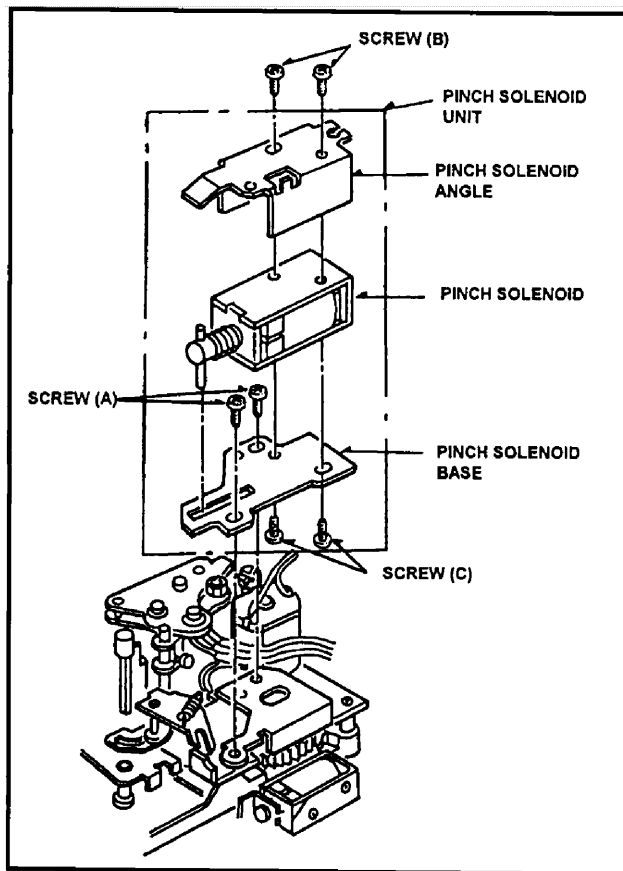

Fig.M9
3. Unscrew the 2 screws(A) and remove the Pinch Solenoid Unit as shown in Figure M9.
4. Unscrew the 2 screws(B) and remove the Pinch Solenoid Angle.
5. Unscrew the 2 screws(C) and remove the Pinch Solenoid from the Pinch Solenoid Base.